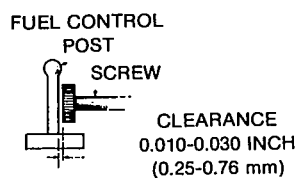

FIGURE 21k. FUEL SOLENOID ADJUSTMENT
6. Adjust fuel solenoid plunger so that a 0.010 to 0.030 inch (0.25 to 0.76 mm) clearance exists (see Figure 21k) between the plunger adjustment screw and the fuel control arm with the solenoid in de-energized position. To adjust the plunger length, hold the plunger and adjust the screw on the plunger lever pin at the fuel shutoff position. Retighten locknut.